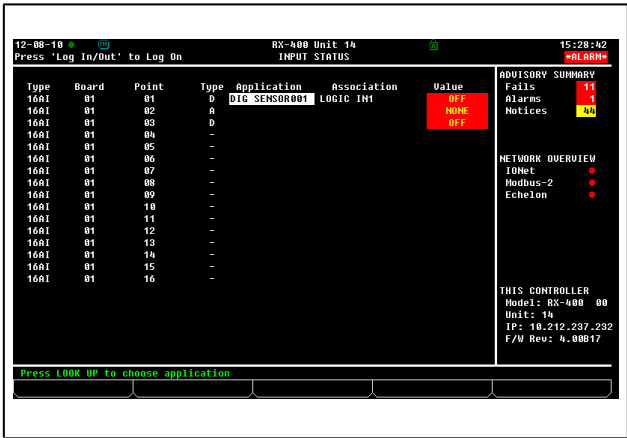

Figure 9-4 - Input Status Screen
Open the Analog Input screen by selecting an Analog (A) input from the Input Status screen **Figure 9-4** and pressing **F1** (SETUP).
The Analog Input screen **Figure 9-4** is where sensor types, units, and default values are specified for analog input points.
Open the Digital Input screen by selecting a Digital (D) input from the Input Status screen **Figure 9-4** and pressing **F1** (SETUP).